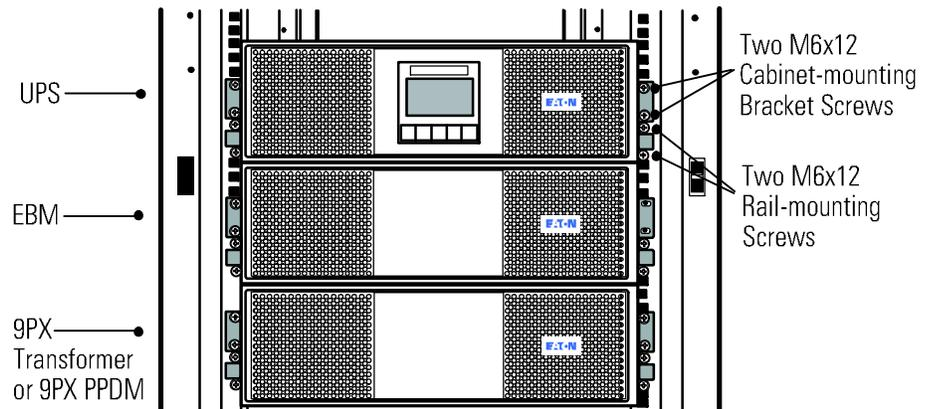

Figure 6. Cabinet installed in Rack (Front view)
5. Secure the front of the cabinet to the rack with two M6x12 mm round-head screws. Note the position of the screws in the installation front view (see Figure 6).